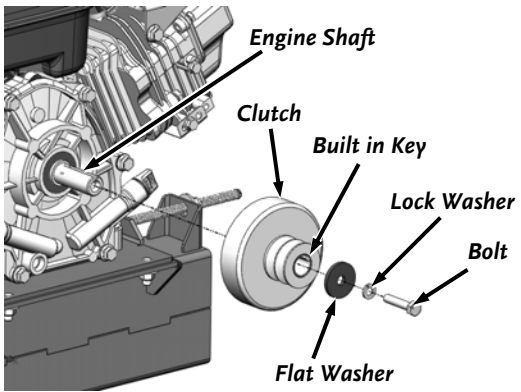

Figure 27
3. Remove the Bolt, Lock Washer and large Flat Washer from the Clutch with a 1/2" Wrench and remove the Clutch from the Engine Shaft (**Figure 27**).